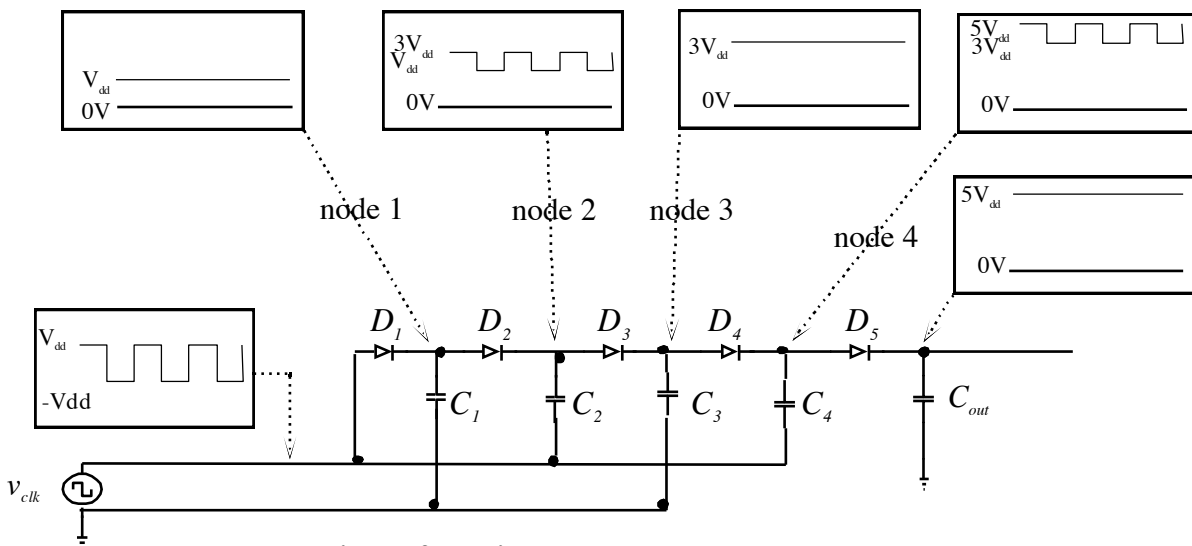

Figure 2.5: Dickson charge pump
Charge pump circuits are commonly used to generate high voltages beyond the supply voltage. The Dickson charge pump is shown in Figure 2.5. It operates by transferring charge from left to right along the diode chain, from capacitor to capacitor. When V_{clk} is high (V_{dd}), diode D_1 conducts until the voltage across capacitor C_1 is charged to V_{dd} . When V_{clk} is low (negative V_{dd}), diode D_2 conducts and transfers charge from C_1 over to C_2 . Eventually, the voltage across capacitor C_2 becomes $2V_{dd}$. When V_{clk} goes high (V_{dd}) again, the voltage at node 2 now becomes $3V_{dd}$. This process repeats itself at each stage, with the voltages at each node as shown in Fig. 2.5.
- E6.** Build the charge pump circuit of Fig. 2.5, using the 1N4148 diodes, and 100 nF capacitors. Use supply voltages of $V_{dd} = 5$ V and $-V_{dd} = -5$ V. Use a 1 μ F electrolytic capacitor for C_{out} . Apply a 1 kHz, -5 V to +5 V, square clock signal, v_{clk} . Sketch the voltages at each node using the same scale. What is the voltage difference between successive stages, and the final voltage across C_{out} ?